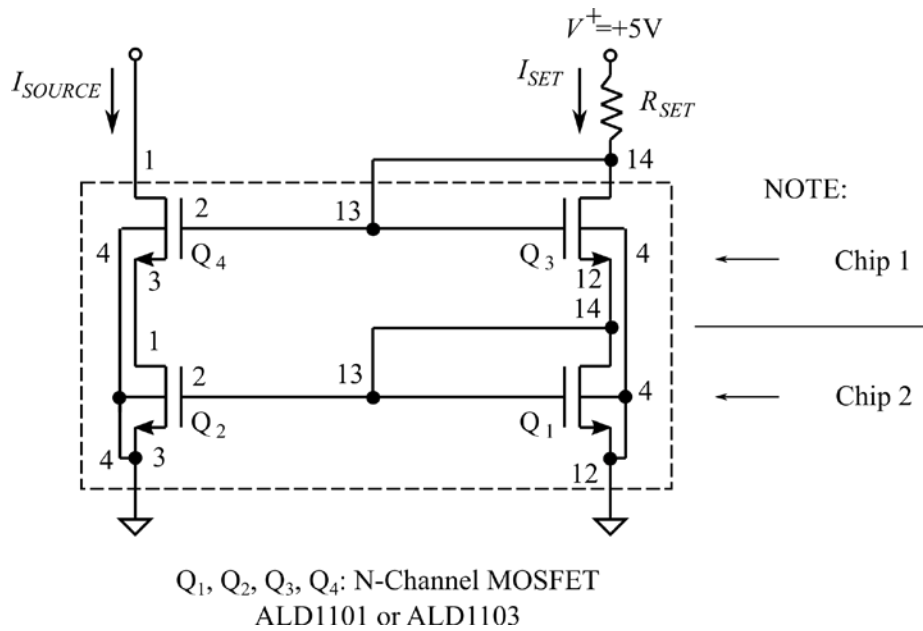

Figure 2: A Cascode Current Source built with NMOS transistors.
5. Next, construct the cascode current source shown in Figure 2, using two NMOS pairs. Repeat the measurement of the output current as you vary the load.